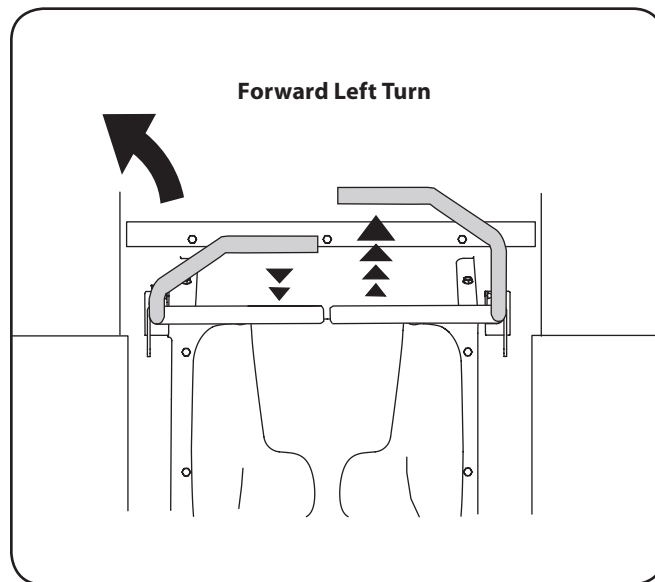

Figure 5-3
- To turn to the left, move the left drive control lever rearward of the right lever. See Figure 5-3.